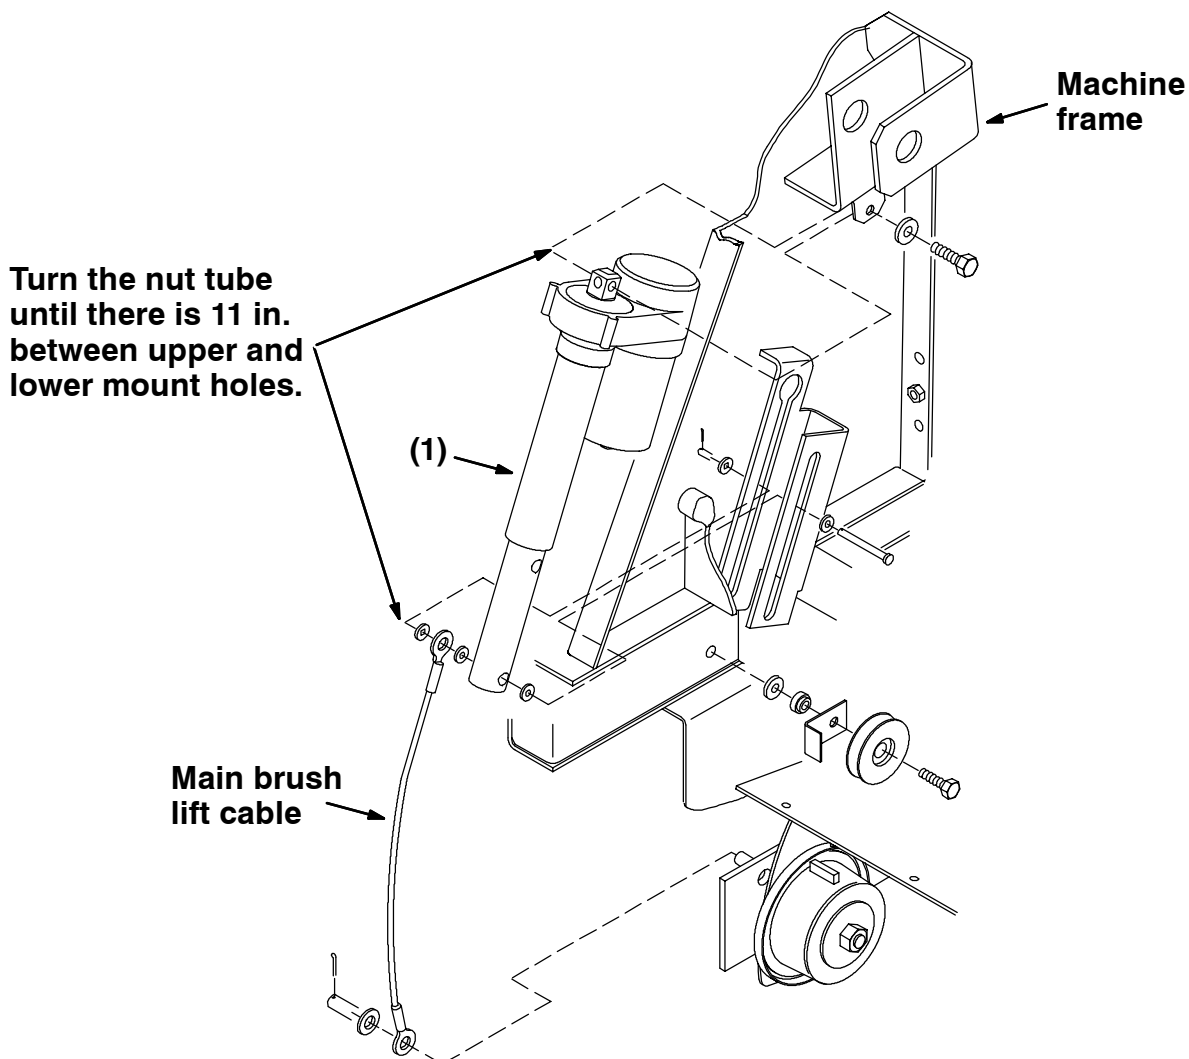

FIG. 1 - Main Brush Lift Actuator
(Refer to FIG. 1)
2. Open the RH side panel. (Refer to FIG. 1)
3. Disconnect the main brush lift cable from the main brush arm. (Refer to FIG. 1)
4. Raise the main brush lift actuator. (Refer to FIG. 1)
8. Unplug the main brush lift actuator from the main harness. (Refer to FIG. 1)
9. Remove the hex screw from the top of the main brush lift actuator. (Refer to FIG. 1)
10. Pull the top of the lift actuator out of the mount bracket. (Refer to FIG. 1)
11. Remove the cotter pin and clevis pin from the tube end of the main brush lift actuator. Push the clevis pin in until the head hits the machine frame. (Refer to FIG. 1)
12. Pull the lift actuator and clevis pin up until the head of the clevis pin lines up with the large hole in the top of the pin slot. Remove the old actuator and clevis pin from the machine. (Refer to FIG. 1)
13. Position the new lift actuator (1) and clevis pin in the right side of the machine. Make sure the actuator is in the retracted position. (Refer to FIG. 1)
14. Make sure the head of the clevis pin is placed through the hole in the top of the slot. (Refer to FIG. 1)
15. Drop the actuator down until the motor end mount hole can be placed in the upper mount bracket. Install the mounting screw and firmly tighten. (Refer to FIG. 1)
16. Push the clevis pin through the slot and install the washer and hair pin. (Refer to FIG. 1)